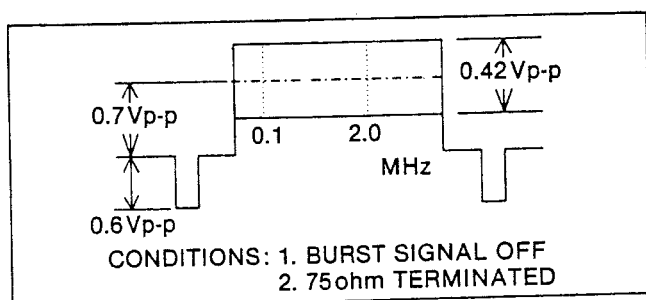

Fig. E9
- (1) Set the video sweep generator as shown in Fig. E9.